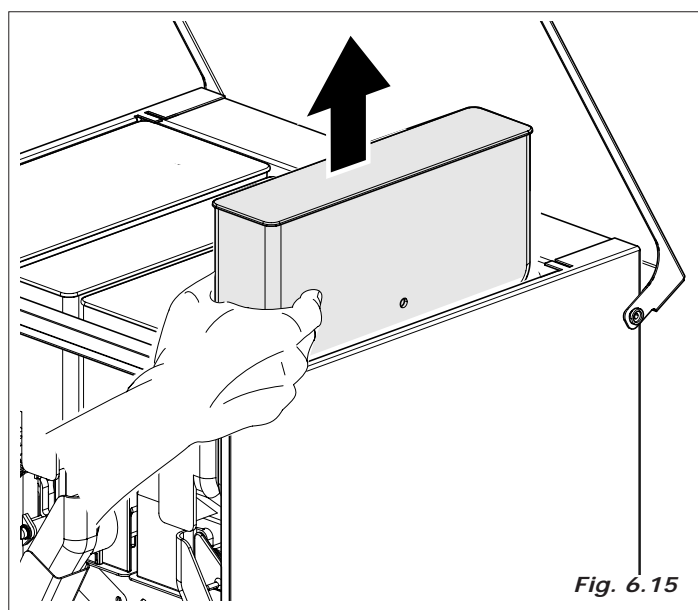

Fig. 6.15
- remove all the product containers from the beverage machine (fig. 6.15).